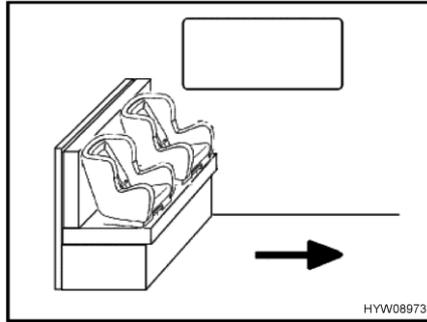
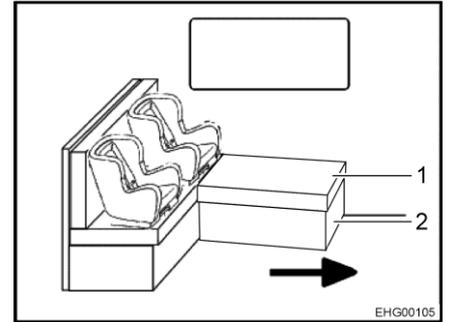

Fig. 22 Child seats on bench
Fig. 23 Child seats on L-shaped bench
The arrow in Fig. 22 and Fig. 23 shows the direction of travel.
- Remove the cushion (Fig. 23,1) if necessary.
- Fold the chest frame (Fig. 23,2) if necessary.